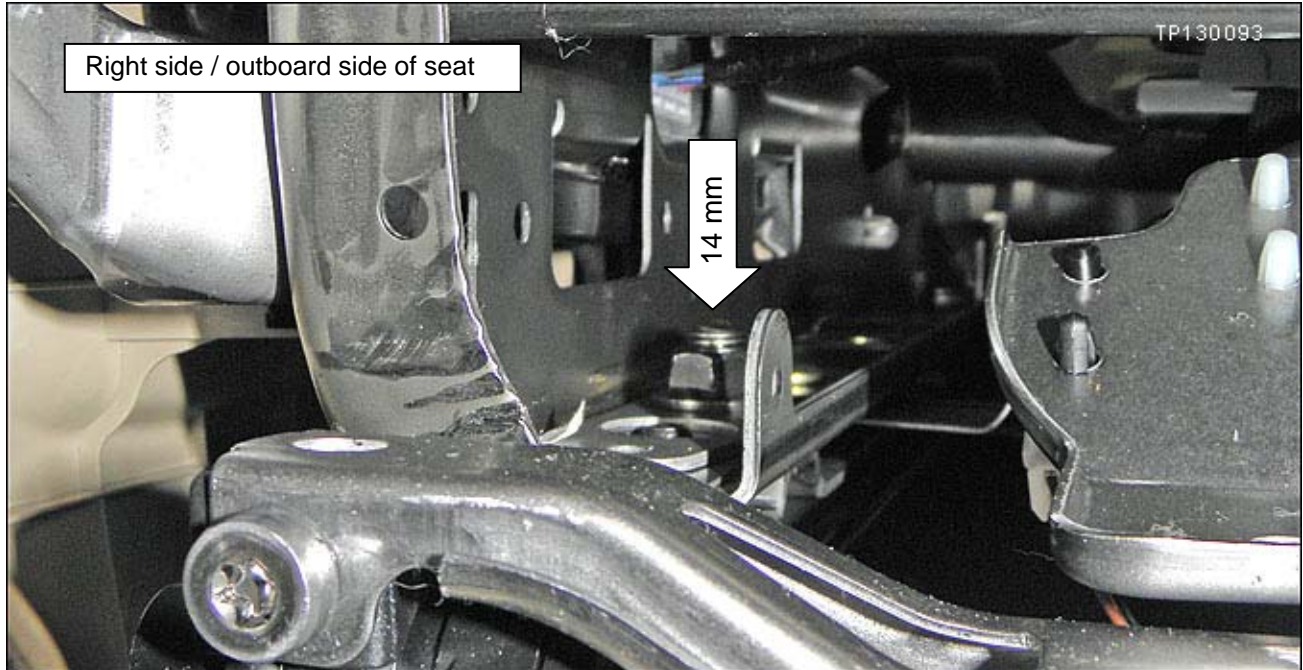

Figure 12
c. Locate and remove the 14 mm nut shown in Figure 12.
- The DVD control unit must be removed to access the 14 mm bolt shown in Figure 12.